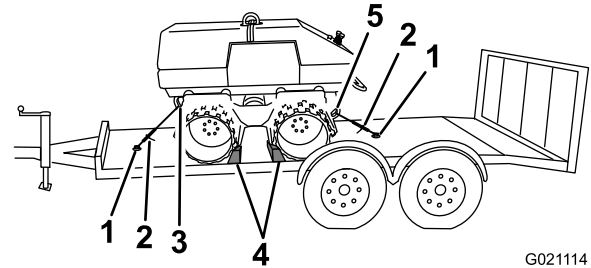

Figure 36
5. Secure the machine to the transport vehicle using blocking and load binders between the anchor rings on the transport vehicle and the tie-down rings on the machine (Figure 36).